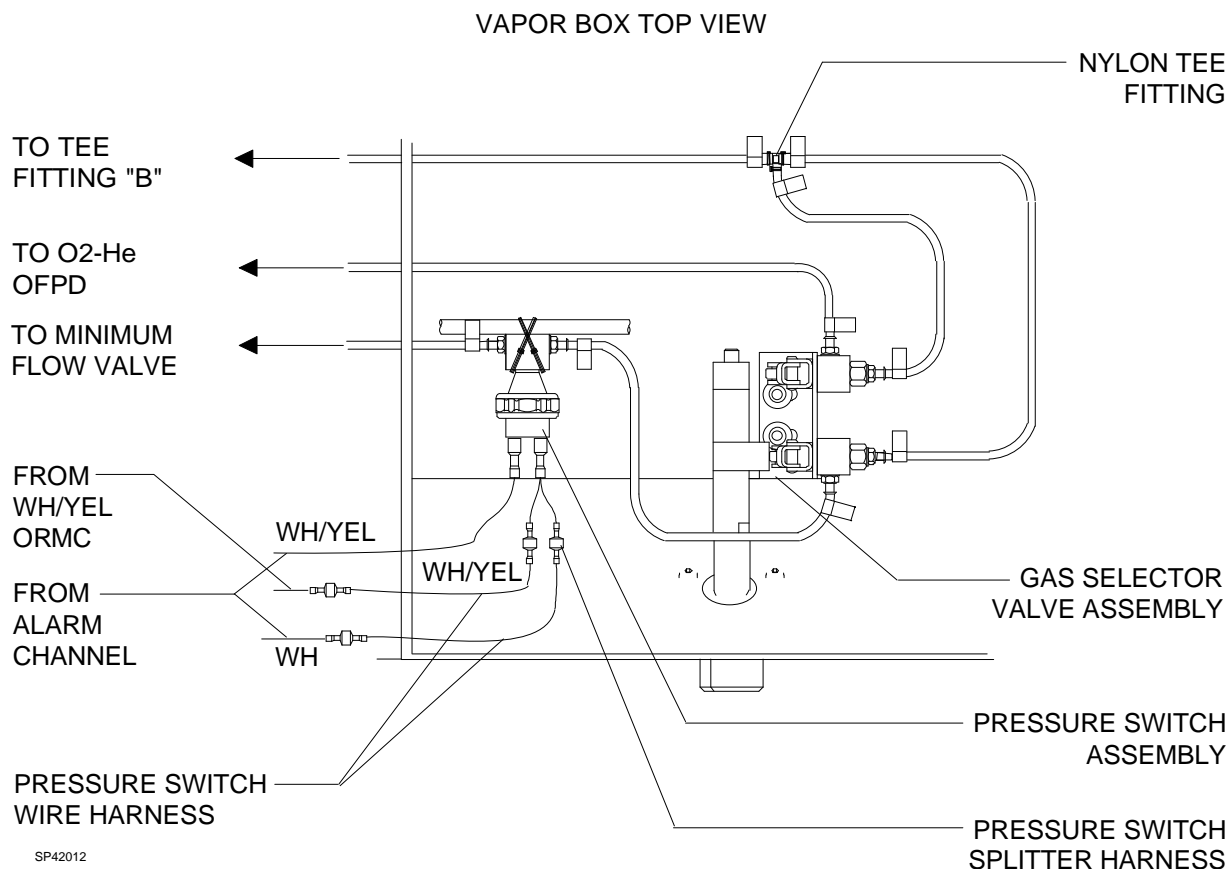

Figure 12: GAS SELECT VALVE AND PRESSURE SWITCH CONNECTIONS
54. Attach the pressure switch assembly to the copper tubing in the vapor box with two tie straps as shown in Figure 12.
55. Join the wire harness connectors from the alarm channel and the ORMC to the pressure switch assembly as shown in Figure 12.
57. Install a 16 in. length of flex tubing between the right side port of the pressure switch and the front port on the gas selector assembly. Secure each end of the tubing with a press-on clamp. Install a O₂ label on each end of this tube as shown in Figure 12.